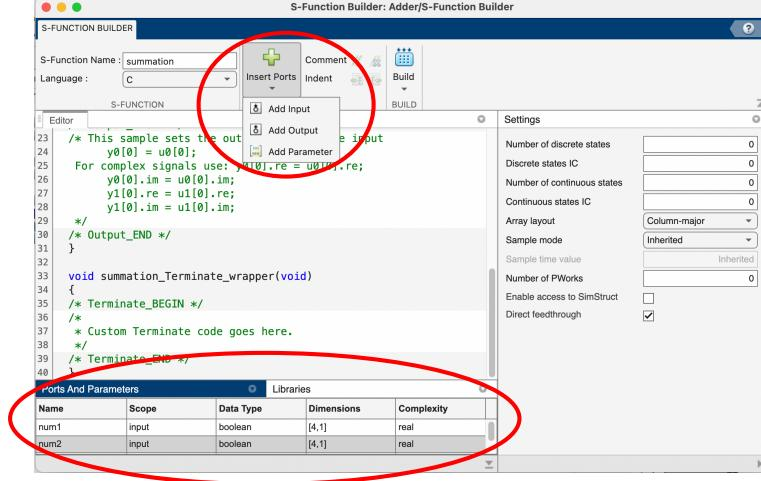

Figure 3: Add input and output ports. Input ports are 4-element vectors of type Boolean. The output port (not shown) is a 5-element Boolean vector.
5. In the Ports and Parameters interface specify the names, types and sizes of your function's inputs and outputs. Add ports and parameters using the pull-down menu in the tool bar at the top of the S-Function builder. Create two input ports, `num1` and `num2`. These should be 1-D vectors and have 4 rows, as seen in the figure below. These settings mean that your S-Function will receive 2 vector inputs, each containing 4 elements. Create one output port called `sum` which is a 5 element vector. See figure 3 for reference.